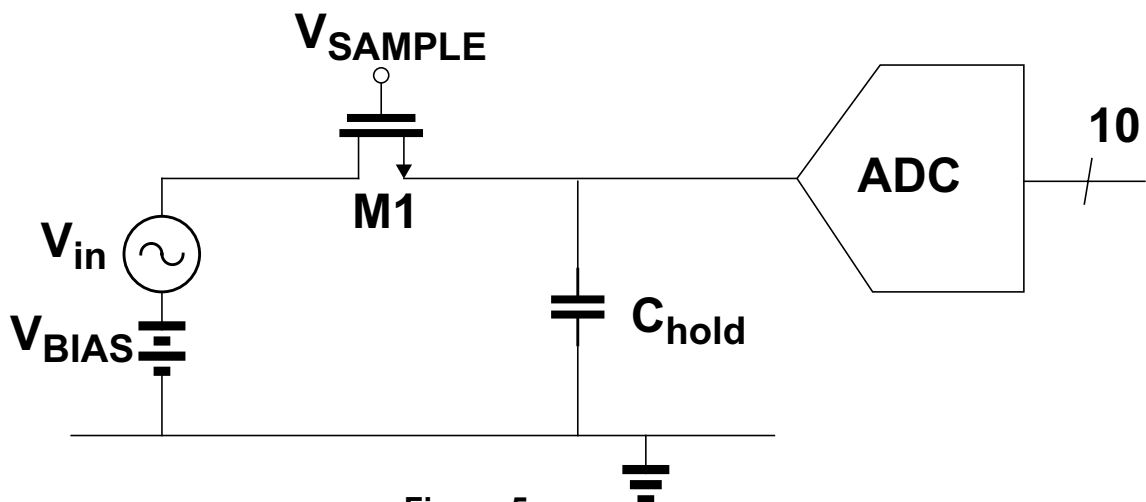

Figure 5
- (iii) Figure 5 shows a sampling circuit preceding a 10-bit A/D converter. The sampling switch M1 is turned on. If the A/D converter has an input range of 1V_{rms} , and the noise budget for the sampling circuit is 0.1 LSB, what is the minimum value required for C_{hold} ?
- (iii) Figure 5 shows a sampling circuit preceding a 10-bit ADC. The sampling switch M1 is turned on. If the A/D converter has an input range of 1V_{rms} , and the noise budget for the sampling circuit is 0.1 LSB, what is the minimum value required for C_{hold} ?